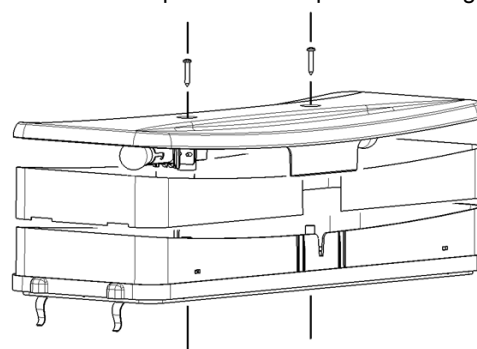

figure 9
- 1 Replacement of lighted top cover bulbs (see figure 9) :